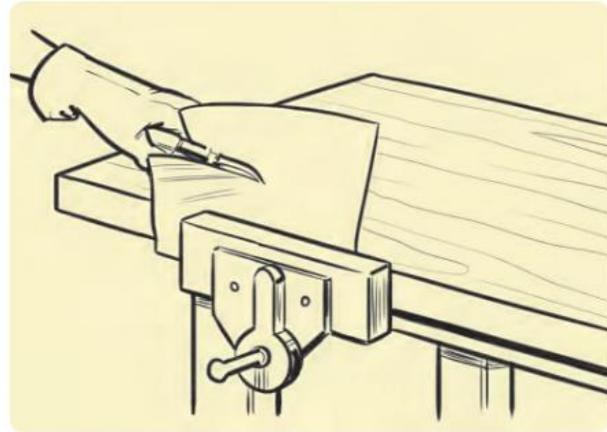

Figure 11.31 Cutting sheet metal using a vice
- If cutting is difficult, one handle may be held in a vice to give greater cutting power, as shown in Figure 11.31.